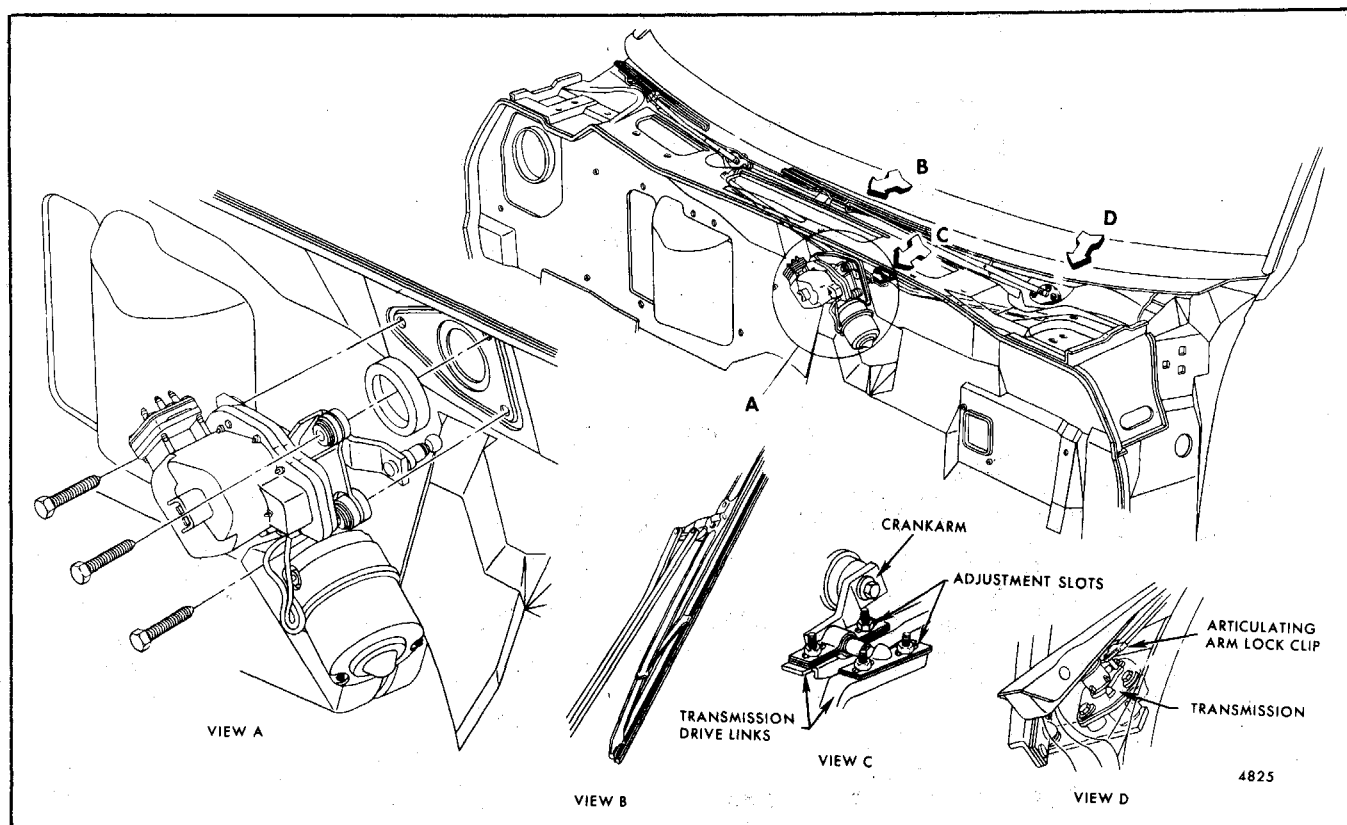

Fig. 2-33-Round Motor and Transmission Installation - "E" Styles
2. Loosen transmission drive link to crank arm attaching nuts (Fig. 2-33, 2-34, 2-35 or 2-39).
5. On "E" styles at left arm, slide articulating arm lock clip away from transmission pivot pin (Fig. 2-33) and lift arm off pin.
3. Loosen, do not remove, the transmission drive link to motor crank arm attaching nuts (Fig. 2-33, 2-34 or 2-39). On "E" styles, if only one arm and blade assembly requires adjustment, loosen only the drive link to crank arm attaching nuts for the unit requiring adjustment.